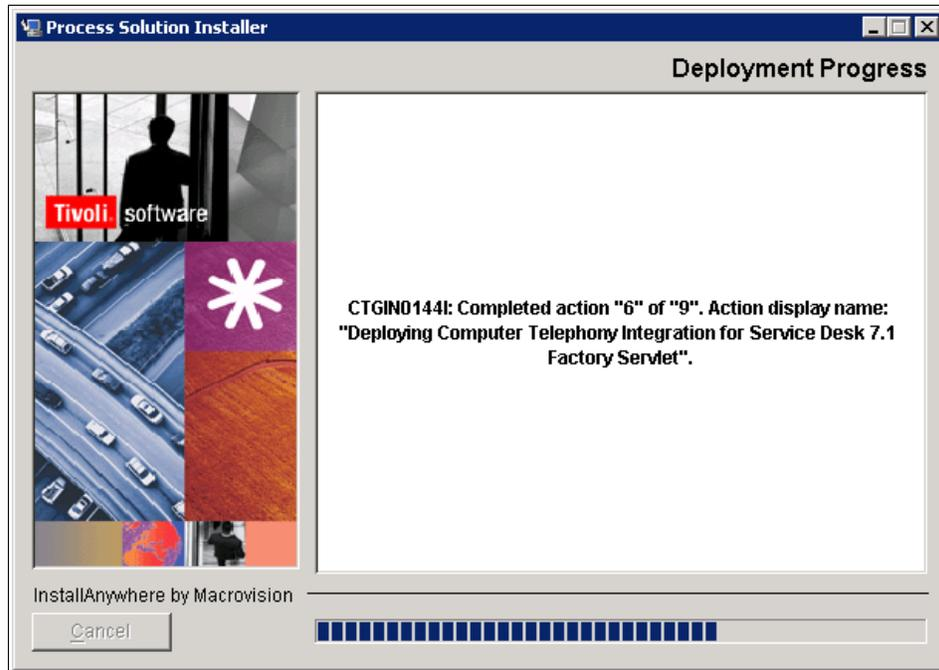

Figure 8-12 Deployment progress
23. The deployment engine is initialized to start the actual deployment, as shown in Figure 8-12 on page 231.